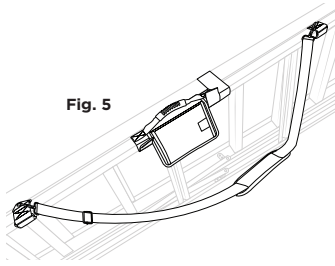

Fig. 5
- c. Wrap the strap around the back rail of the ladder, tightly slot the strap through the metal d-ring and fold back onto itself and secure the hook & loop. Repeat with the second strap. [fig. 5]